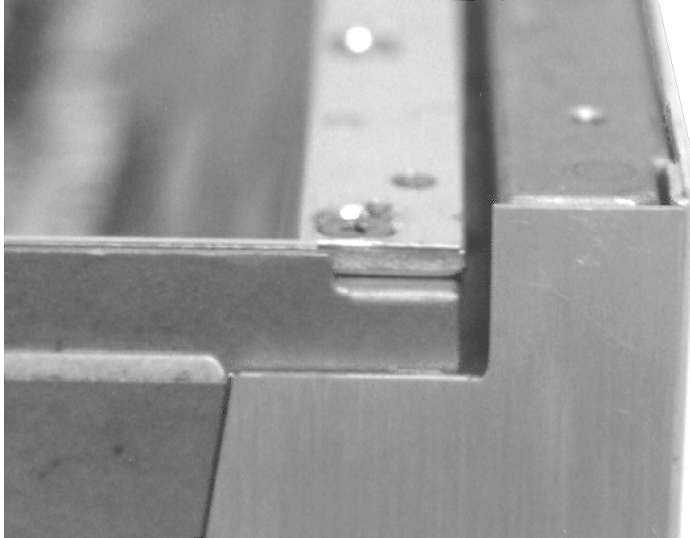

Figure 25. Correct Reflector Alignment (I300M)
8. When the reflector is properly installed, the face should be flush and even with the outer face of the two end reflectors as shown in Figure 25.